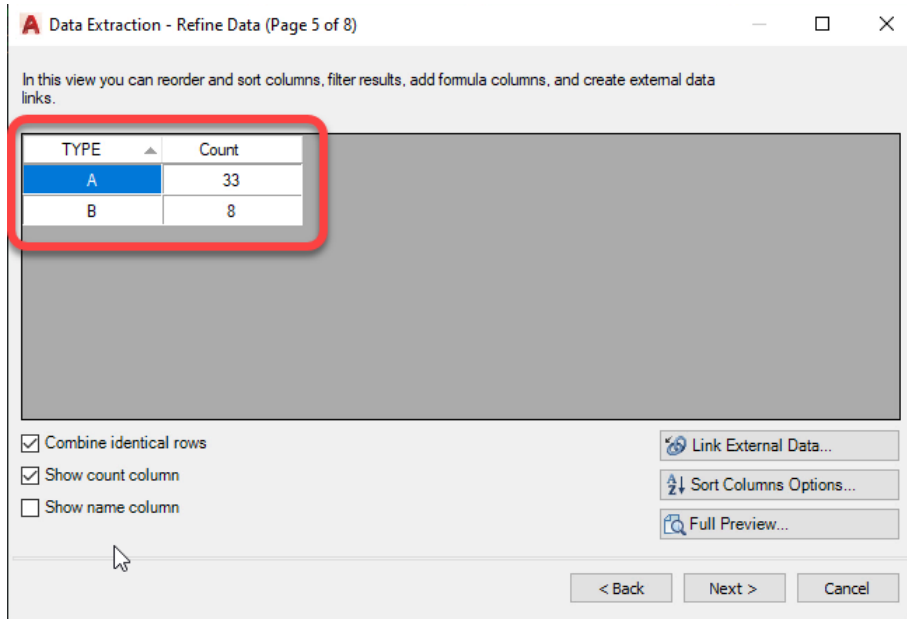

Figure 48: Sorting the extraction by the TYPE property and hiding the Block Name Column from the Data Extraction.
- Sort and organize extracted data from the Data Extraction – Refine Data dialog box (see Figure 48).